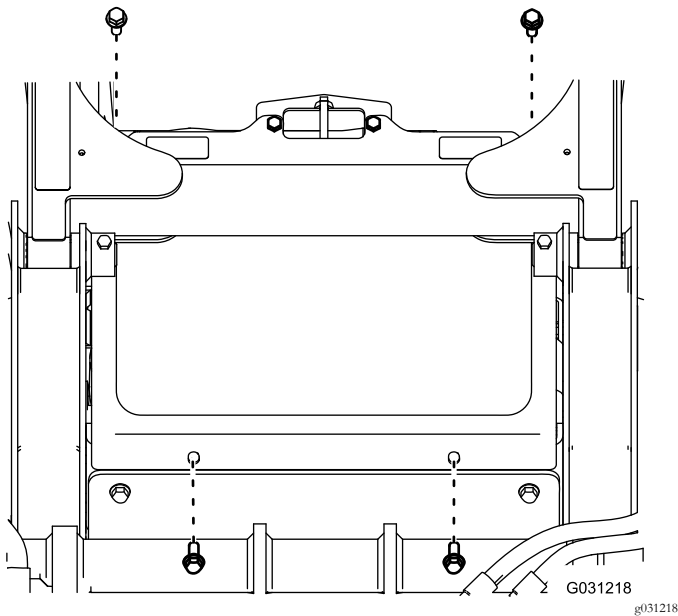

Figure 4
2. Remove and retain the 4 bolts from the top screen (Figure 4).
5. Install the kit front screen using the bolts that you removed previously as shown in Figure 4.